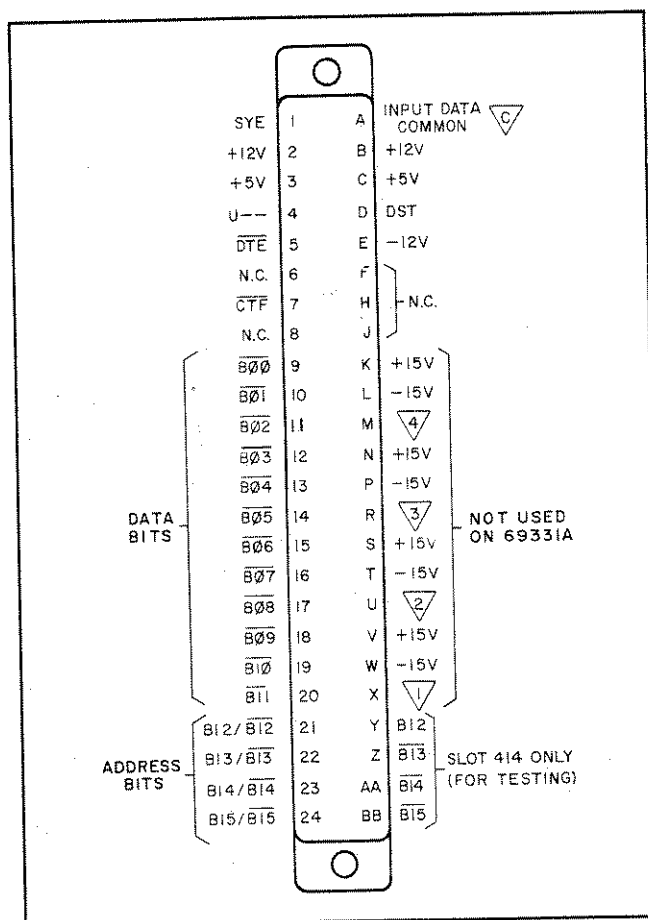

Figure 3-1. Multiprogrammer 400 Series Slot Connector
3-2 The TTL output card is controlled by the multiprogrammer unit in which it is installed. All dc operating power, address and data bits, and control signals are supplied to the output card through multiprogrammer main frame connectors in slots 400 through 414. Figure 3-1 illustrates the signals present on all multiprogrammer 400-series connectors.
3-11 An output card is selected to receive new data when its associated address bits (B12/B12 through B15/B15) and a unit select line U-- are all HI. Although both the true and complemented forms of the address bits are represented on Figure 3-1 (e.g. B12 and B12) only one of the two states is present on each of the four address gate lines when the card is installed in a multiprogrammer slot. For example, if the output card is installed in slot 405, then bits B12 (1), B13 (2), B14 (4), and B15 (8) will